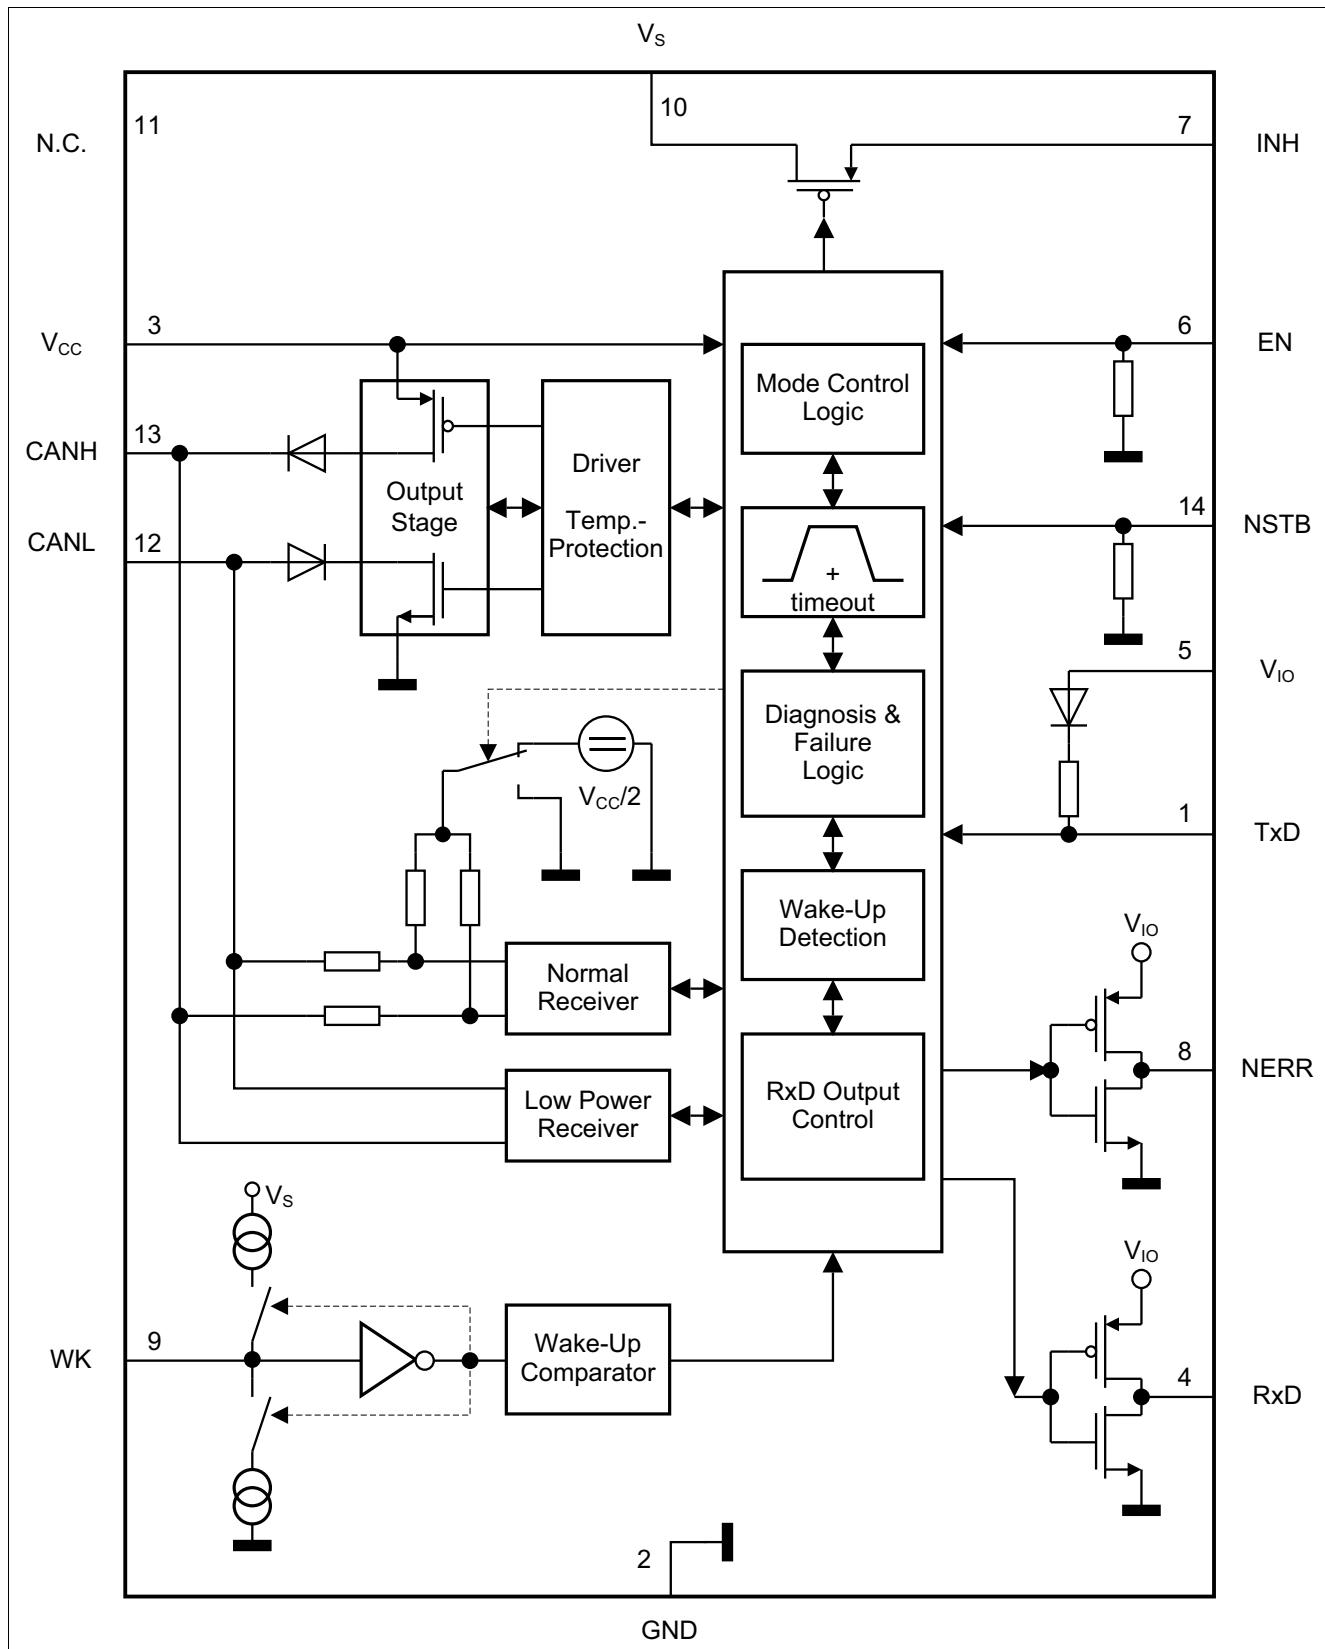
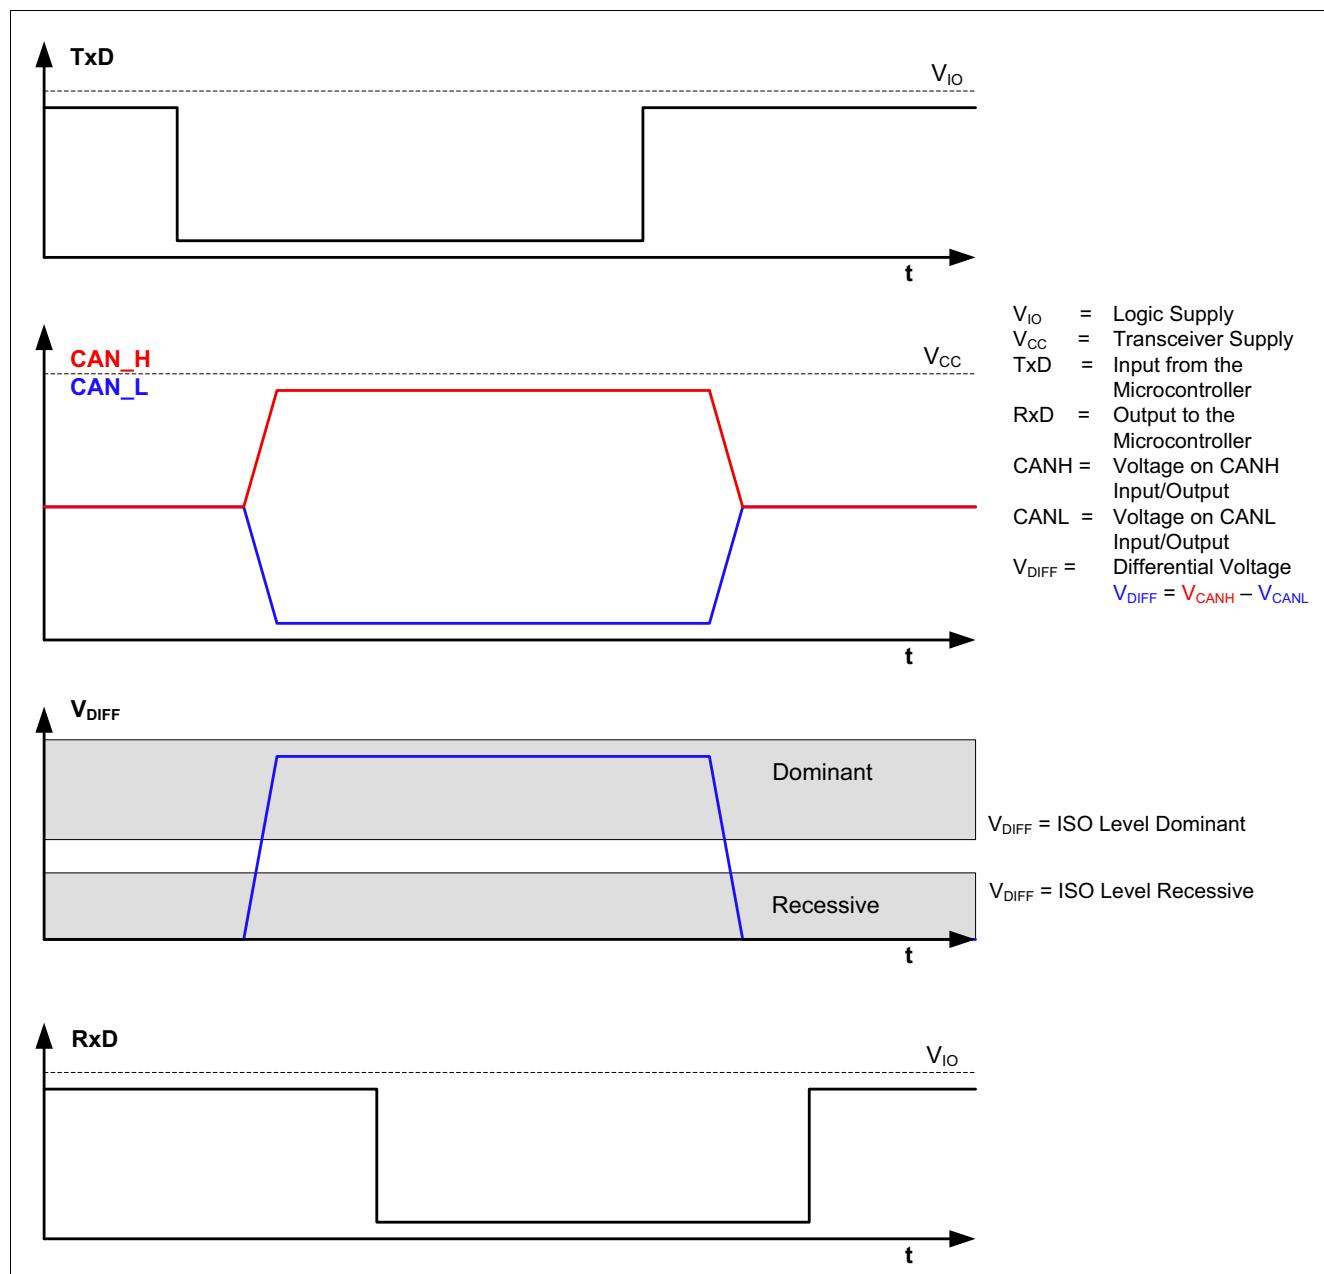

Figure 1 Block Diagram
Figure 3 High Speed CAN Bus Signals and Logic Signals
The TLE6251-3G is a High Speed CAN transceiver, operating as an interface between the CAN controller and the physical bus medium. A **High Speed CAN** network (abbreviated HS CAN) is a two wire differential network which allows data transmission rates up to 1 MBaud. Characteristic for a HS CAN network are the two CAN bus states "Dominant" and "Recessive" (see Figure 3).
The input TxD and the output RxD are connected to the microcontroller of the ECU. As shown in Figure 1, the HS CAN transceiver TLE6251-3G has a receive unit and a output stage, allowing the transceiver to send data to the bus medium and monitor the data from the bus medium at the same time. The HS CAN TLE6251-3G converts the serial data stream available on the transmit data input TxD into a differential output signal on CAN bus. The differential output signal is provided by the pins CANH and CANL. The receiver stage of the TLE6251-3G monitors the data on the CAN bus and converts them to a serial data stream on the RxD pin. A logical "Low" signal on the TxD pin creates a "Dominant" signal on the CAN bus, followed by a logical "Low" signal on the RxD pin (see Figure 3). The feature, broadcasting data to the CAN bus and listening to the data traffic on the CAN bus simultaneous is essential to support the bit to bit arbitration on CAN networks.
- Through the internal resistors  $R_I$  (see Figure 1), the pins CANH and CANL are connected to GND.